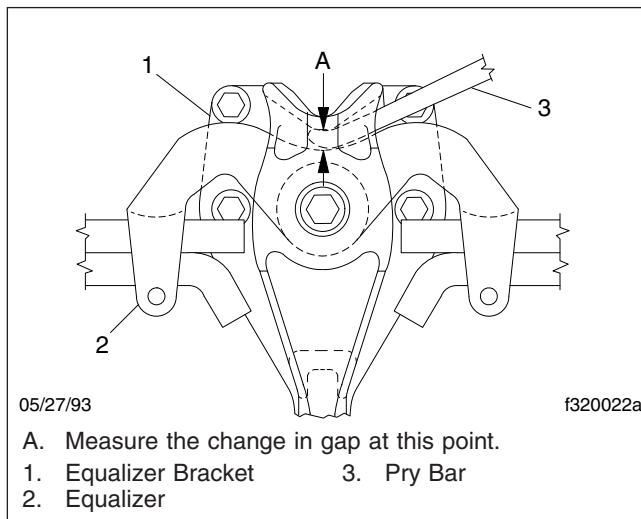

Fig. 4, Side View of the Equalizer
- Block up the frame enough to take chassis weight off the springs. Attempt to move the equalizer up and down, using a pry bar between the top of the equalizer and top of the equalizer bracket; apply hand pressure only. See Fig. 4. If movement at the center of the equalizer exceeds 1/8 inch (3 mm), replace the equalizer bushings. See **Group 32** of the *122SD and Coronado Workshop Manual* for instructions.